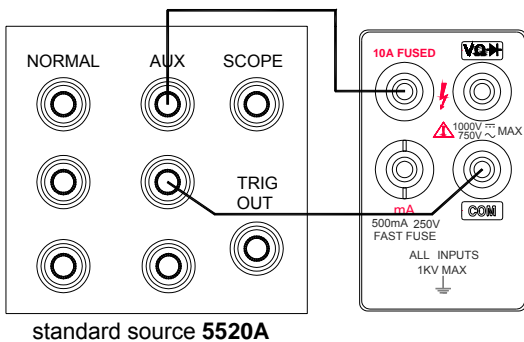

Figure 5-4
- 2) Connect the standard equipment with the meter as shown in Figure 5-4.